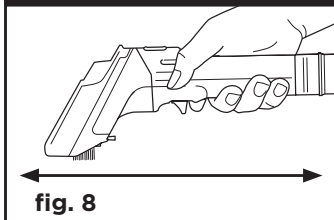

fig. 8
4. Scrub the stain with the bristles on the tool (**fig. 8**).